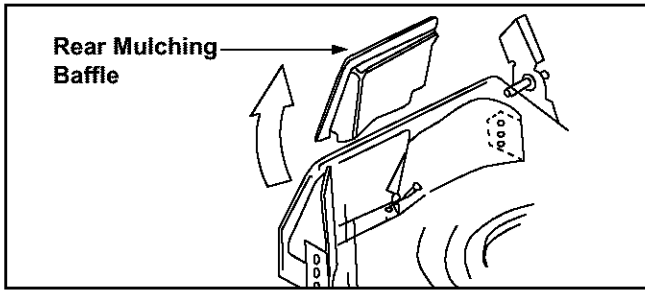

Figure 9
- Remove the mulching baffle in order to install and use the grass catcher. Lift the rear discharge door and remove the rear mulching baffle from the mower. See Figure 9.